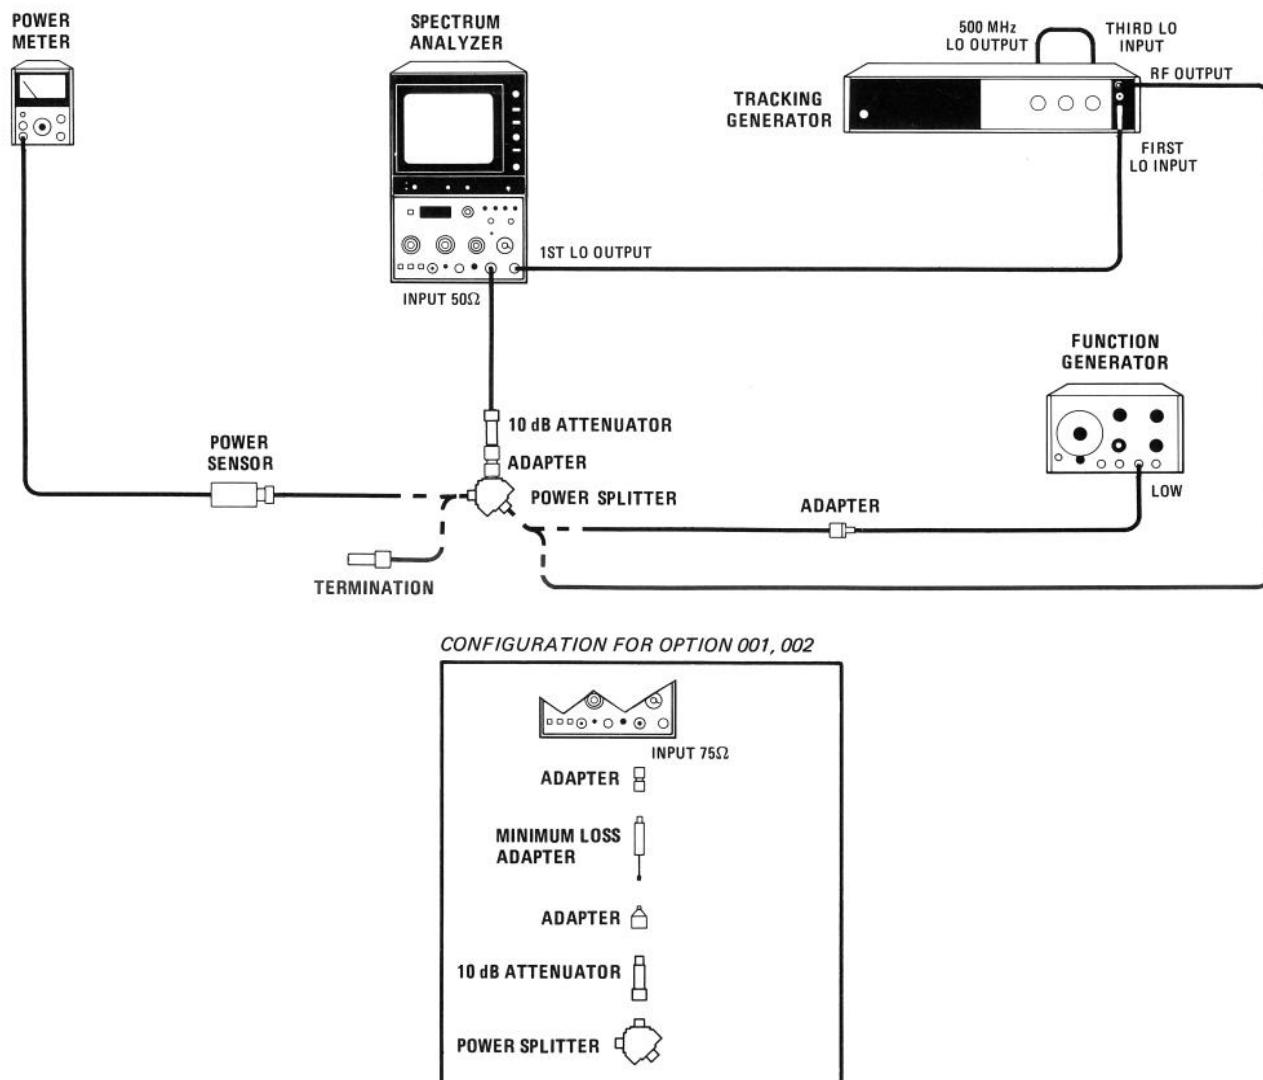

FIGURE 4-16. FREQUENCY REPSONSE TEST SETUP
- Adjust TUNING for a FREQUENCY MHz reading of 5.0 MHz. Press FREQUENCY CAL. Set up equipment as shown in Figure 4-16. Connect the tracking generator 500 MHz LO OUTPUT to the THIRD LO INPUT (rear panel).